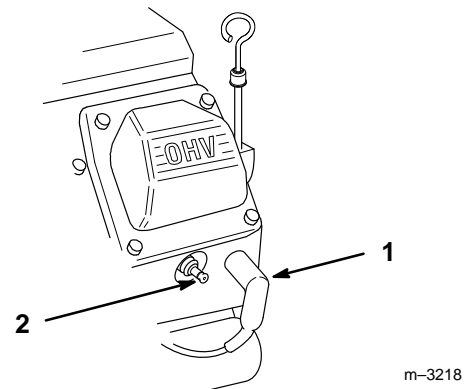

Figure 12
2. Pull the wire(s) off the spark plug(s) (Fig. 12). Now clean around the spark plug(s) to prevent dirt from falling into the engine and potentially causing damage.
3. Push the wire(s) onto the spark plug(s) (Fig. 12).